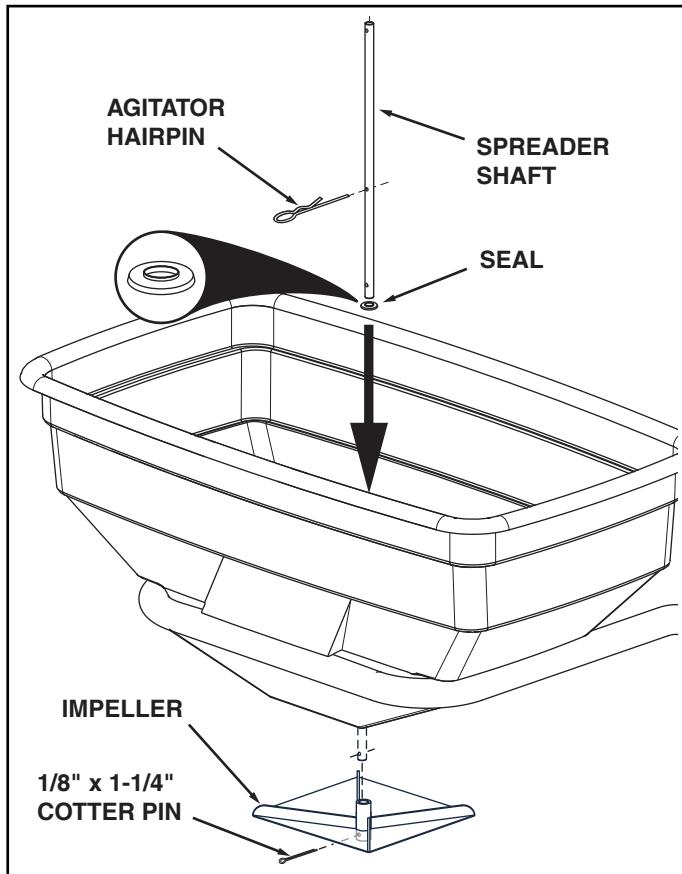

FIGURE 3
4. Insert agitator hairpin into middle hole in the spreader shaft. Assemble a seal (turned as shown in figure 3) onto end of the spreader shaft closest to hairpin agitator. See figure 3.
5. Slide end of spreader shaft having the seal through the plastic bushing in the bottom of hopper. See figure 3.
6. Slide the impeller onto the spreader shaft and secure it with a 1/8" x 1-1/4" cotter pin. See figure 3.